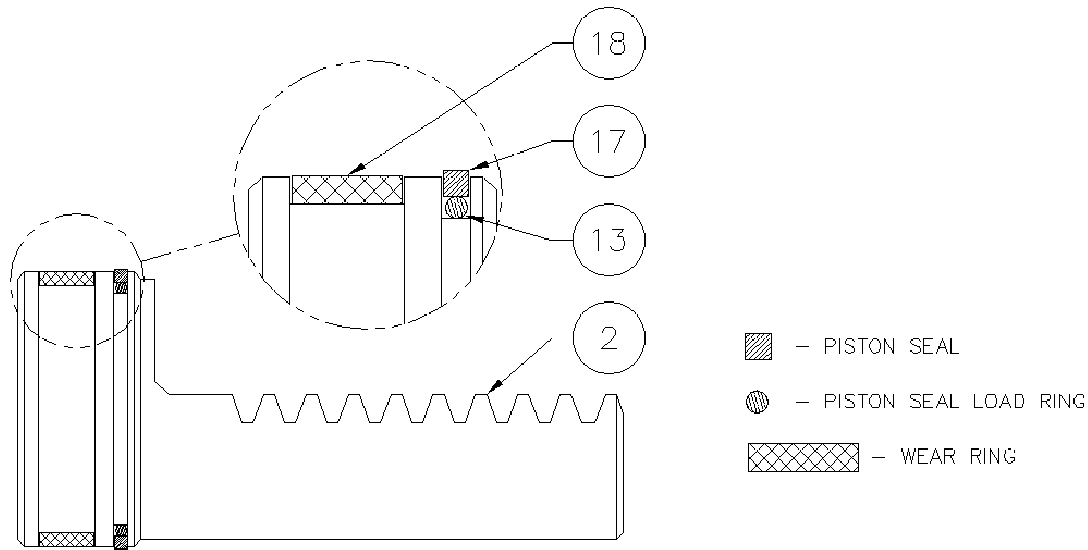

figure A-1
1. Install the piston seal load ring (13) (fig. A-1) in the small groove on the head of the actuator rack (2). Place the “square” piston seal (17) over the load ring (13) in the same small groove (a small “blunt” flathead screwdriver may be used, taking care not to scratch or damage the seal). Install the wear ring (18) in the large groove on the head of the rack. Using a ring compressor, firmly seat the rings on the rack before setting it aside, this will help to reverse the effects of any stretching of the rings that occurred during installation. Repeat this procedure for the other rack.